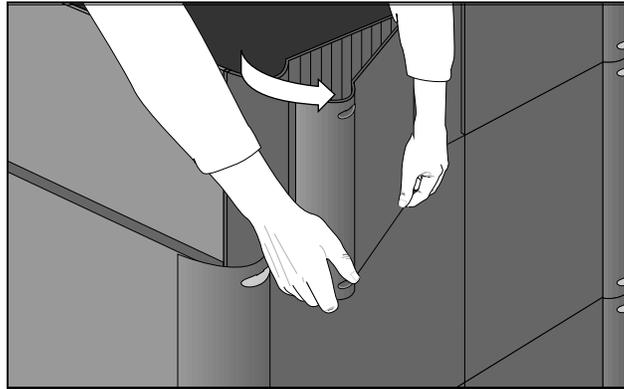

Figure 30. Removing the plastic side covers
- b. Using one hand, lift the plastic cover from the curved edge and, using your other hand to hold the bottom edge of the cover, gently pry it off (Figure 30).